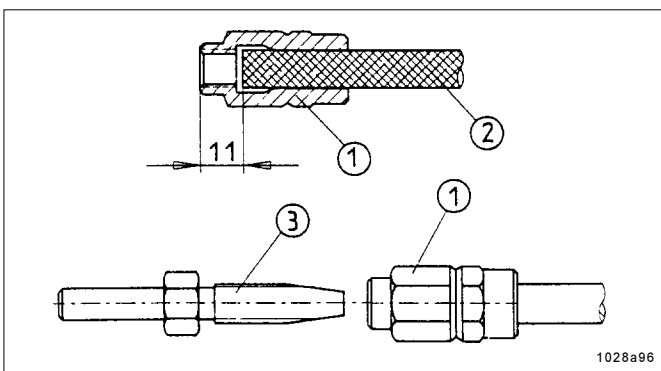

Fig. 31 - Preassembly of threaded sleeves and hose studs on the main line.
\* Screw the threaded sleeve (item 1, Fig. 31) counterclockwise onto the high-pressure plastic hose (2) until the illustrated dimension of 11 mm is reached. Then screw the hose stud (3) into the threaded sleeve (1).